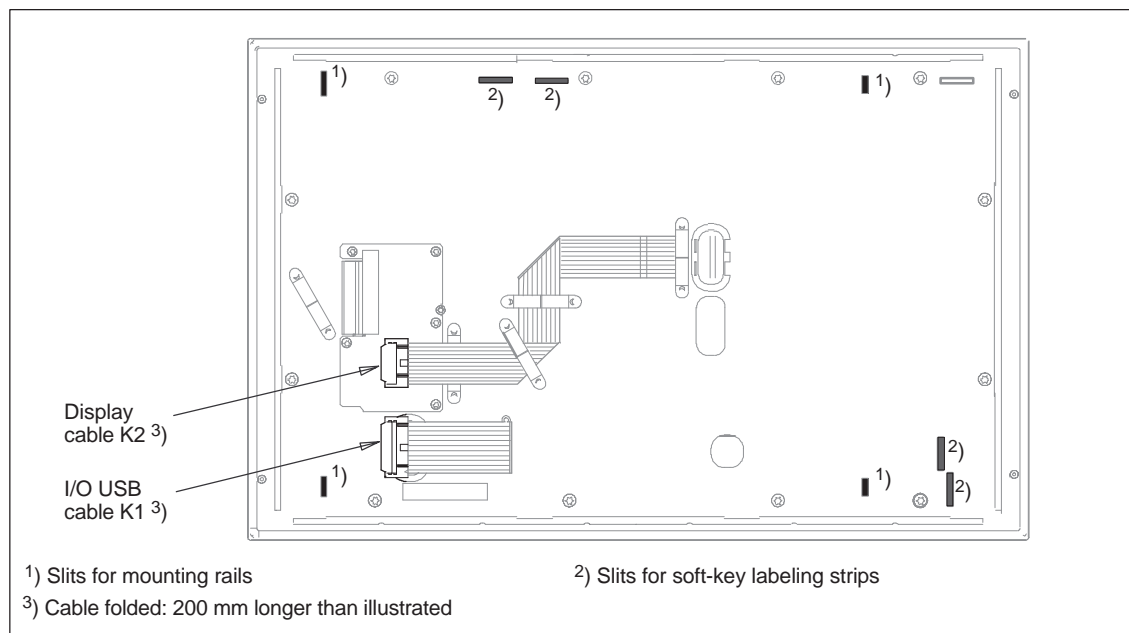

Fig. 4-4 Rear side of operating panel with positions of interfaces
5. Remove the cable connectors K1 and K2 of the operating unit (see Figure 4-4) from their corresponding counterparts on the computing unit.